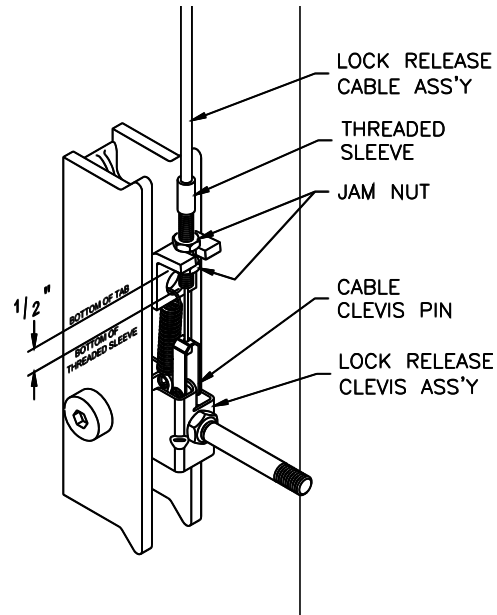

Fig 10 - Power Column Lock Release Assembly
- 25) Attach Mechanical Lock Release Cable Assembly to Power Column Lock Pawl using the 3/16" diameter x 1/2" long pin and (2) "C" clip retainers found in hardware, **Fig 10**.
- 26) Insert threaded sleeve portion of cable assembly in slot located on tab above locking pawl, **Fig 10**. One jam nut should be located on each side of tab. Position threaded sleeve with 1/2" of thread below tab as indicated in **Fig 10** and tighten jam nuts.
- 30) Repeat **procedures 24 thru 28** with second Lock Release Cable routing from top of Idler Column Lock to bottom of Power Column Lock, (**Figs. 10 & 11**).